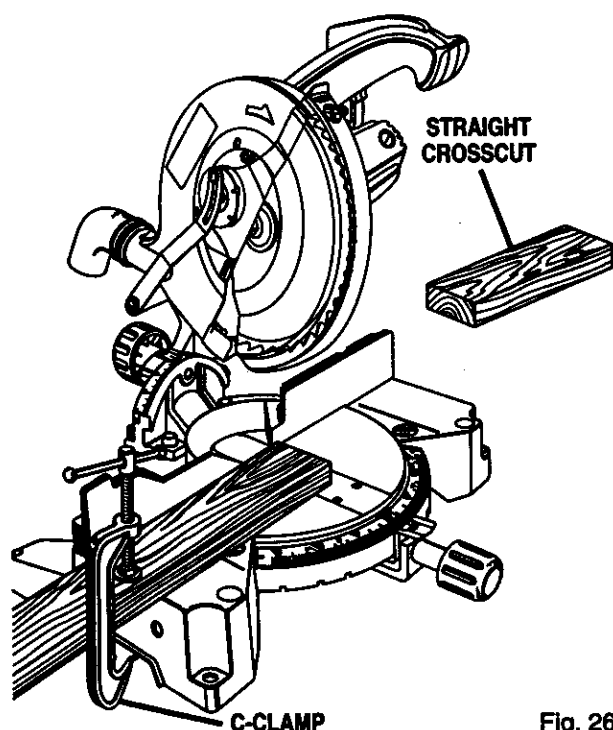

Fig. 26
See Figure 26.
- Grasp the stock firmly with one hand and secure it against the fence. Use the optional work clamp or a C-clamp to secure the workpiece when possible. See Figure 26.
- Slowly lower the blade into and through the workpiece. See Figure 26.